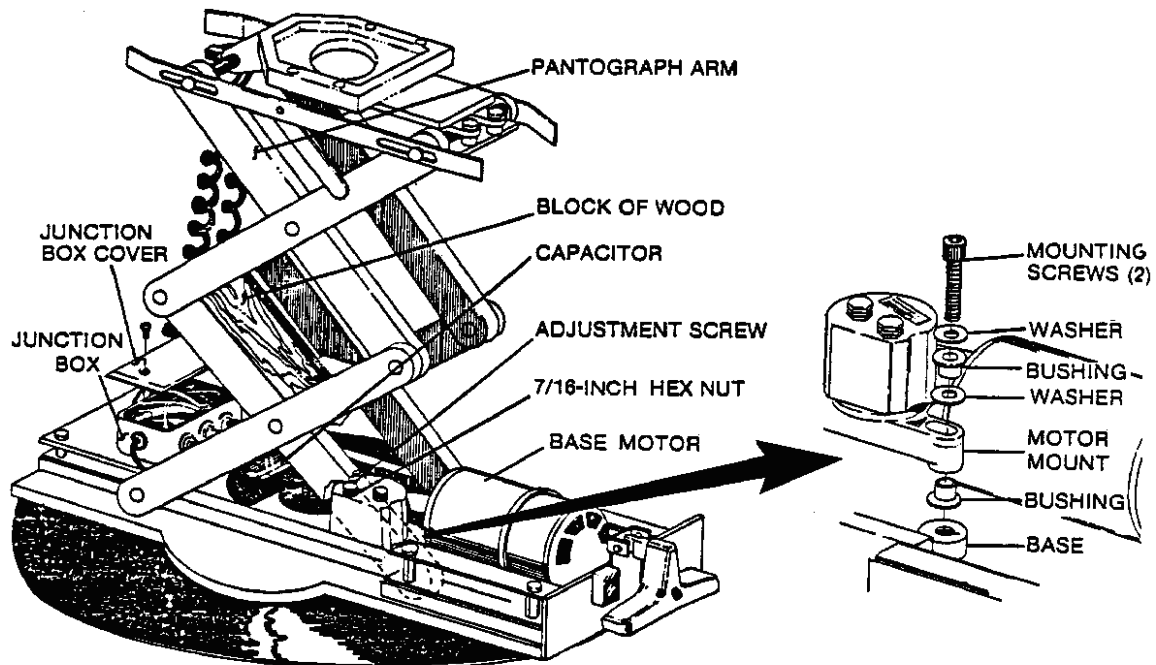
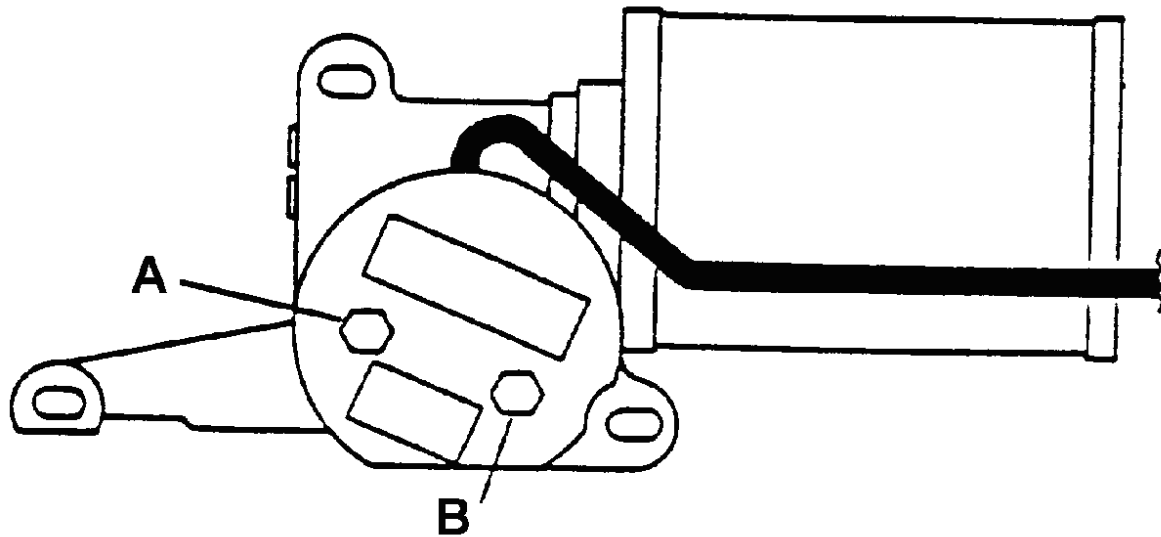

Figure 3-3. PLA-R-200 lift.
Figure 3-6. Switches "A" and "B" on PLR-200.
CAUTION: Place a block of wood, five inches long, between the pantograph arms on one side and lower the pantograph slightly to grip the block of wood securely. Refer to figure 3-3.
(16) Run the lift down to check the lower extreme position.
(17) Adjust the height of the lift using a 7/16 inch open-end or box wrench. Loosen the locknut on the adjusting screw (Switch "A" on PLR-200) (refer to figure 3-6) and turn clockwise (refer to figure 3-3) to raise the lower limit of the lift. Turn counterclockwise to decrease the lower limit of the lift. Each full turn of the adjusting screw changes the lift height 9/16 inch.
(24) Adjust the automatic exit position (Switch "B" in figure 3-6) to the desired position as described in step (17) above.